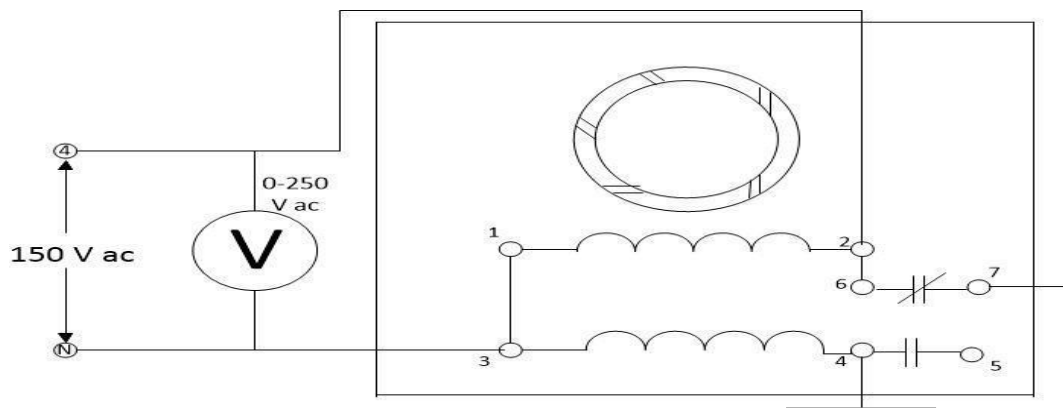

Figure 1-1
7. Connected the circuit shown in Figure 1-1. The centrifugal switch was connected in series with the auxiliary winding and both windings were connected in parallel across the 150V ac power source terminals 4 and 5, was not used when the module was operated as a split-phase motor.